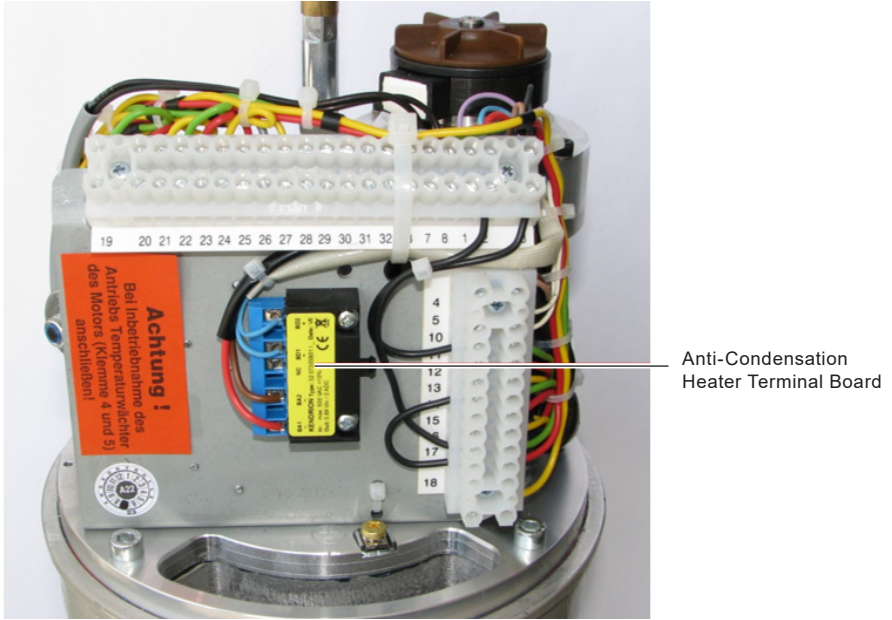

Fig. 21 Anti-Condensation Heater Installation (8-20 kN [1,798-4,496 lbf])
- Refer to Figures 21 and 22 "Heater Installation 8-20 kN (1,798-4,496 lbf)" for product orientation